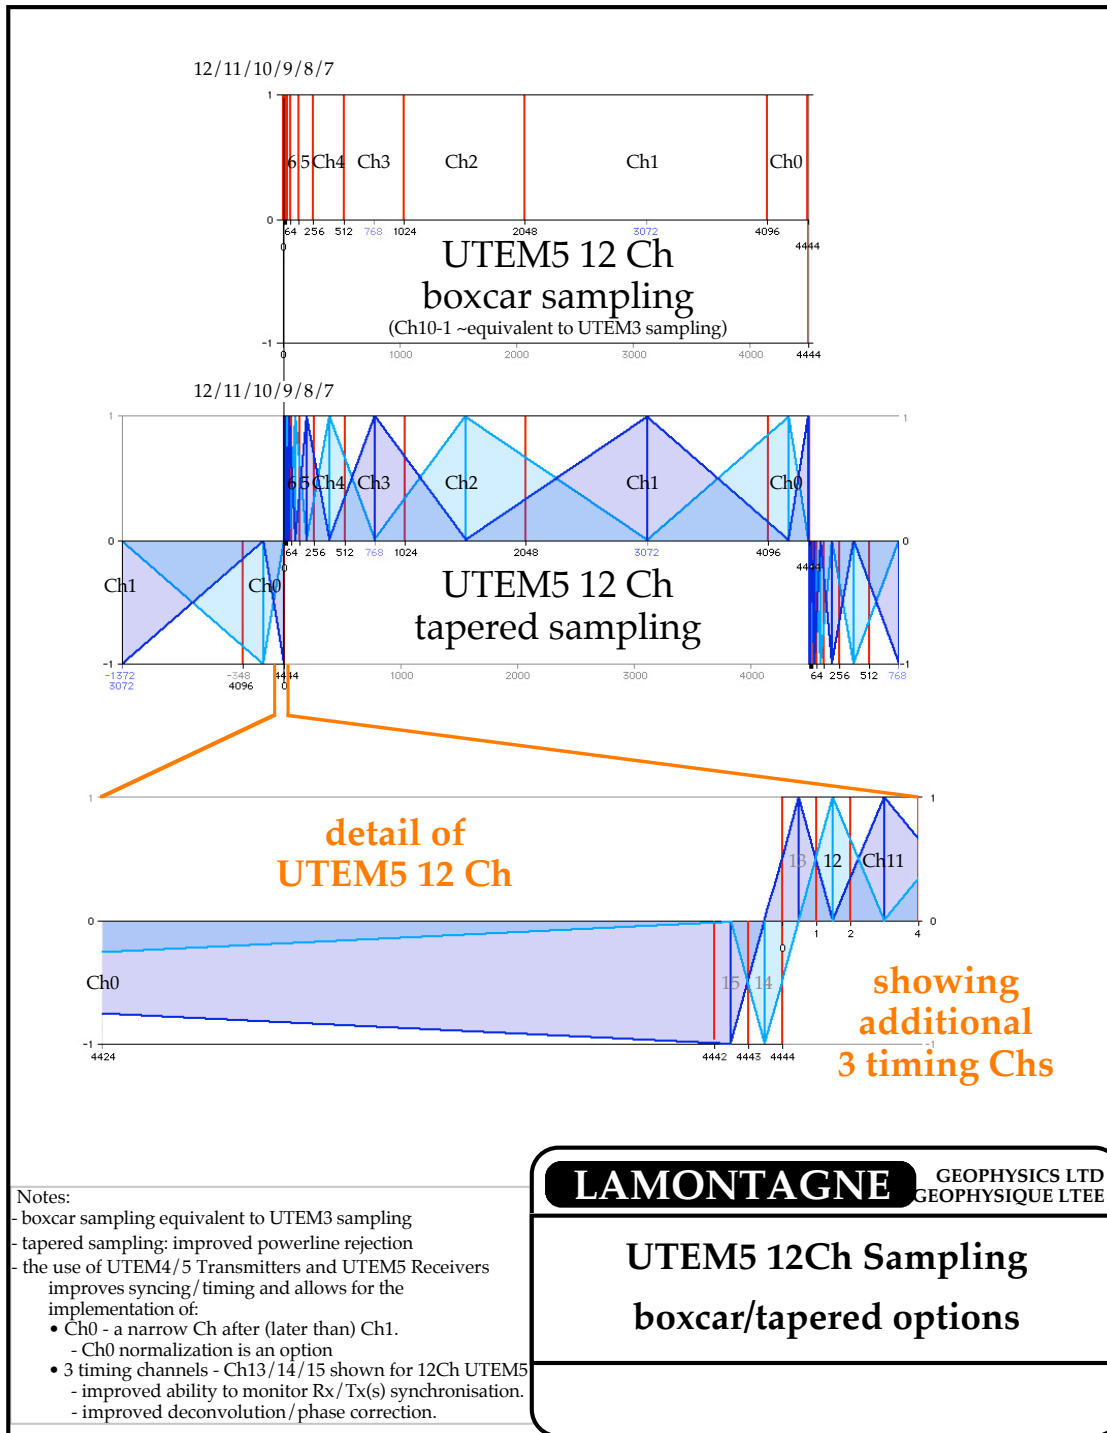

Figure D1: UTEM5 12Ch Sampling boxcar/tapered options.
- Figure D1 shows the UTEM5 channels when 12Ch sampling is selected. Channels are spaced in a binary, geometric progression across each half-cycle of the received waveform - giving just over 3 channels per decade. Ch12, the earliest channel, is  $(\sim)1/2^{12}$  of the half-cycle wide. Ch1, the latest channel, is  $(\sim)1/2^1$  of the half-cycle wide. The use of UTEM4/5 Transmitters and UTEM5 Receivers allows for the implementation of:
- - 3 timing channels - Ch13/14/15 (Figure D1) for 12Ch UTEM5 The timing Chs improve the operator's ability to monitor Rx/Tx(s) synchronisation and allow for more precise phase correction/improved deconvolution.
- the UTEM5 rejection of non-survey frequencies including powerline noise is far superior to previous UTEM systems. One of the many features of the UTEM5 system that add up to the improved rejection is the option of tapered channel sampling (Figure D1).
The UTEM receiver measures the time variation of the magnetic field in the direction of the receiver coil at (typically) channels or delay times. UTEM channels are spaced in a binary, geometric progression across each half-cycle of the received waveform. Channel 12 (or Ch10) is the earliest channel and it is  $1/2^{12}$  of the half-cycle wide. Channel 1, the latest channel, is  $1/2^1$  of the half cycle wide (see Figure D1). The measurements obtained for each of channels are accumulated over many half-cycles. The final channel value stored is the average of the measurements. The number of half cycles averaged depends on the signal strength and the ambient noise.